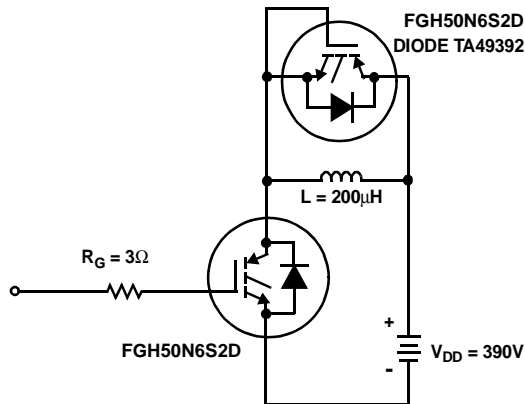

Figure 26. Inductive Switching Test Circuit
2. Values for two Turn-On loss conditions are shown for the convenience of the circuit designer. E_{ON1} is the turn-on loss of the IGBT only. E_{ON2} is the turn-on loss when a typical diode is used in the test circuit and the diode is at the same T_J as the IGBT. The diode type is specified in figure 26.